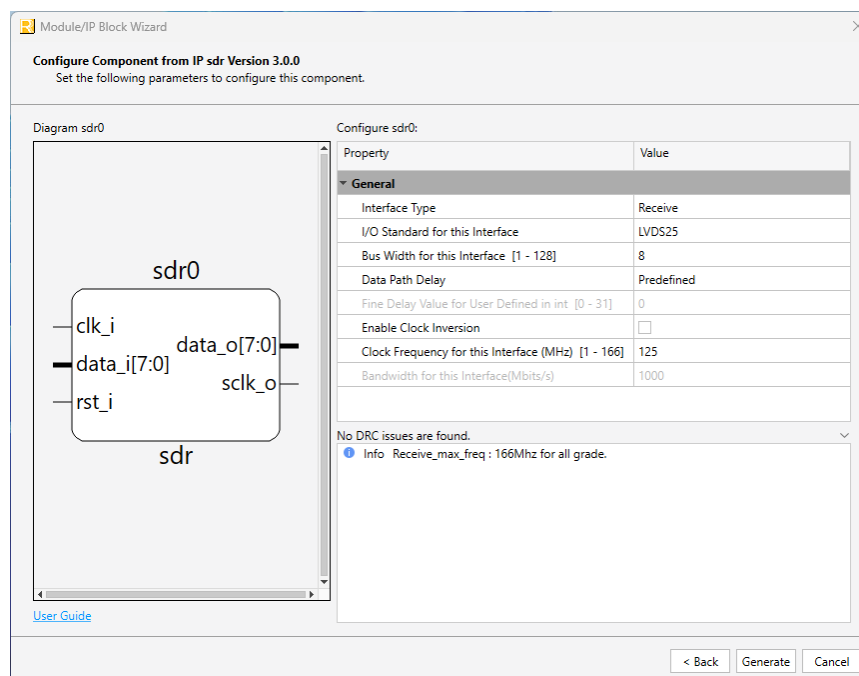

Figure 5.2. Configure Block of SDR I/O Module
5. Customize the selected SDR I/O Module using drop-down lists and check boxes. Figure 5.2 shows an example of the SDR I/O Module. For details on the configuration options, refer to the IP Parameter Description section.